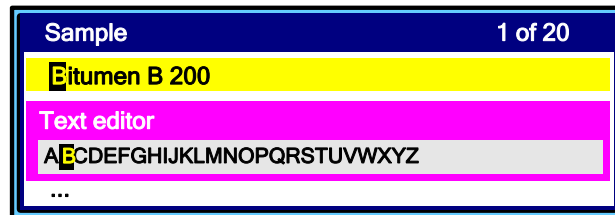

Figure 27 – Line entry mode
4.10.2.4 To continue entering text, press «Mode» again. In this case, the tester switches to line entry mode (see figure 27).